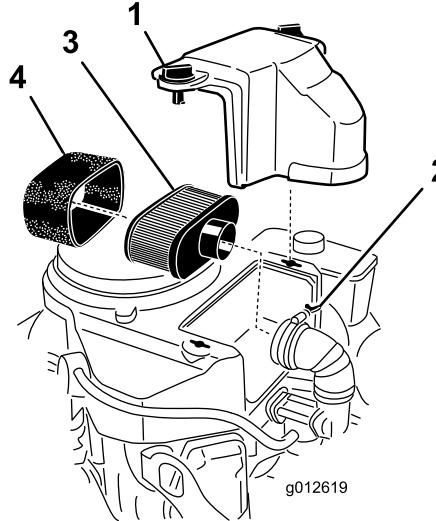

Figure 28
3. Clean the area around the air cleaner to prevent dirt from entering the engine and causing damage (Figure 28).
4. Unscrew the cover knobs and remove the air-cleaner cover (Figure 28).
5. Unscrew the hose clamp and remove the air-cleaner assembly (Figure 28).
6. Carefully pull the foam element off the paper element (Figure 28).
**Important:** Do not clean the paper filter, replace it (Figure 28).
1. Carefully slide the foam element on to the paper air-cleaner element (Figure 28).
2. Place the air-cleaner assembly onto the air cleaner base and secure it with the 2 wing nuts (Figure 28).
- Place the air-cleaner cover into position and tighten the cover knob (Figure 28).